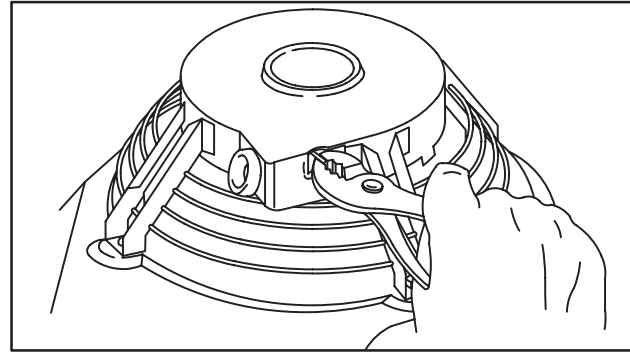

Fig. 3 – Remove Spring
- Grasp outer end of spring with pliers and pull out of housing as far as possible, Fig. 3.